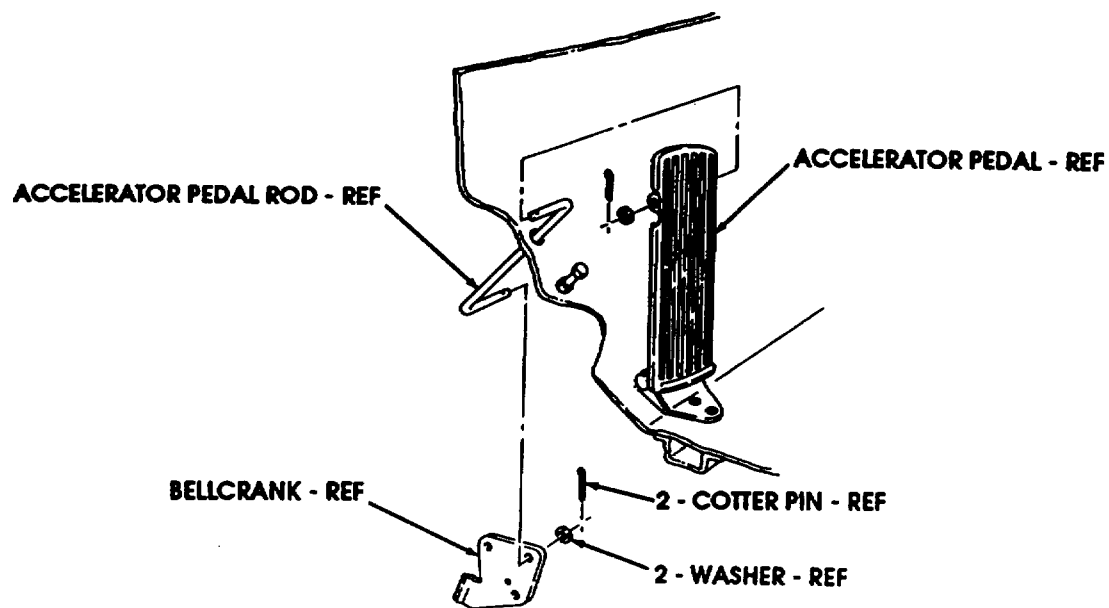

FIGURE 4
- (9) Remove two cotter pins, washers, and accelerator pedal rod from bellcrank and accelerator pedal as shown in figure 4.